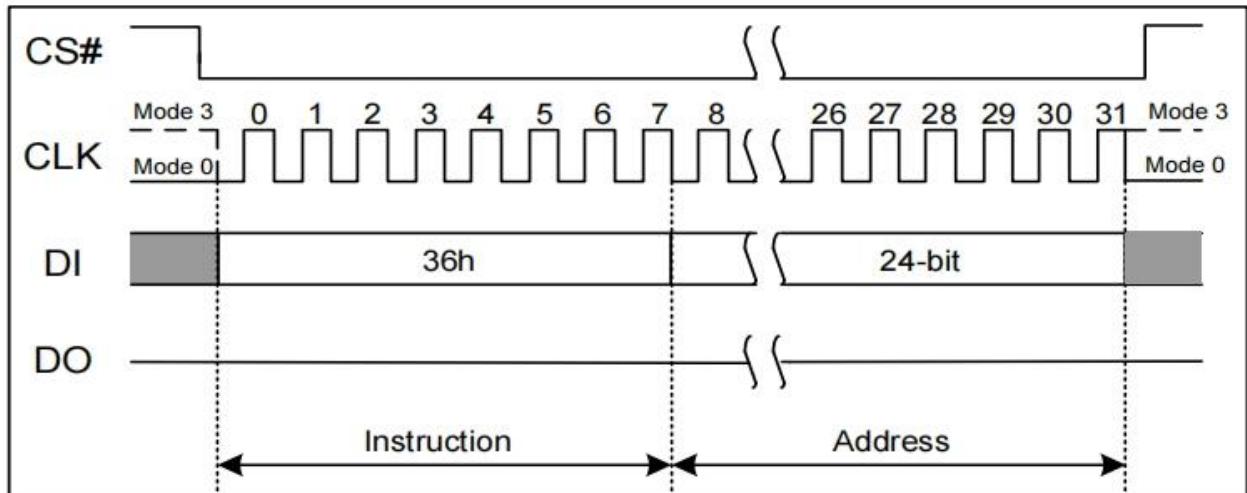

Figure 7.47 Individual Block/Sector Lock Instruction(SPI Mode)
To lock a specific block or sector as illustrated in Figure 7.47, an Individual Block/Sector Lock command must be issued by driving CS# low, shifting the instruction code “36h” into the Data Input (DI) pin on the rising edge of CLK, followed by a 24/32-bit address and then driving CS# high. A Write Enable instruction must be executed before the device will accept the Individual Block/Sector Lock Instruction (Status Register bit WEL= 1).